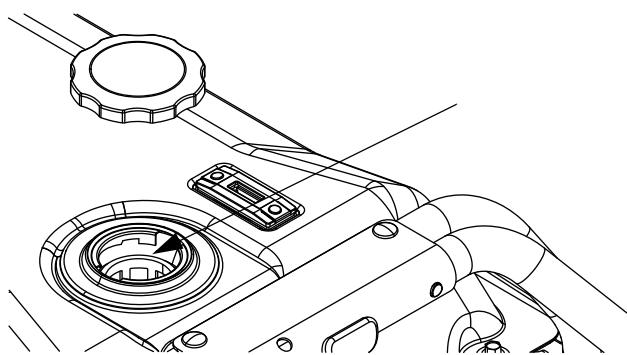

Figure 2-12. Fuel Fill Level
- Slowly add unleaded gasoline to fuel tank. **Be careful not to overfill** (Figure 2-12).